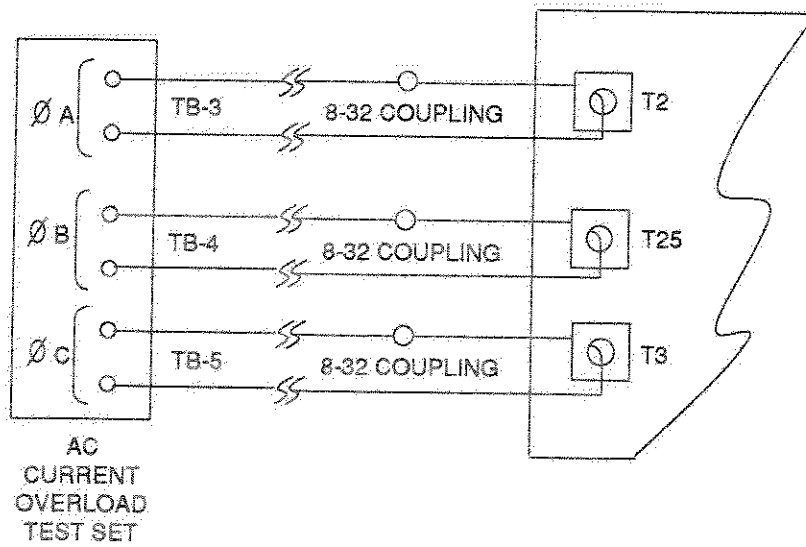

Figure 6-106.3. PA AC Current Overload Test
6. Route AC Current Test Set A phase lead through center of 2T3 current transformer. (See Figure 6-106.3)